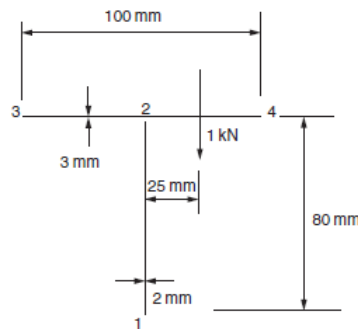

Figure 5
- (b) Determine the maximum shear stress in the beam section shown in Figure 5 stating clearly the point at which it occurs. Also find the rate of twist of the beam section if the shear modulus G is $25000N/mm^2$. [BL: Apply| CO: 6|Marks: 7]